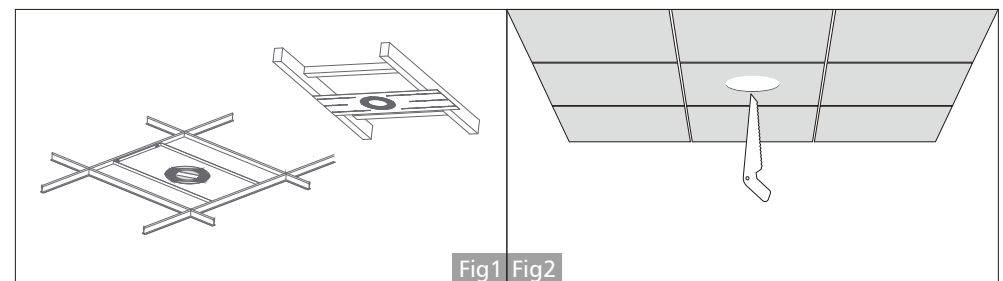

Fig1 Fig2
- 3.If using selected power driver or selected CCT luminaire, please adjust the lamp power to desired lumen output by slide switch on driver box.adjust CCT on the back of luminaire by slide switch.make sure the switch is never in between positions. (fig. 1).
1. If using a new construction Plate, install it in the ceiling following its own installation instruction. (fig. 1)
1. If using a new Construction Plate, install it in the ceiling following its own installation instruction. (fig. 1)